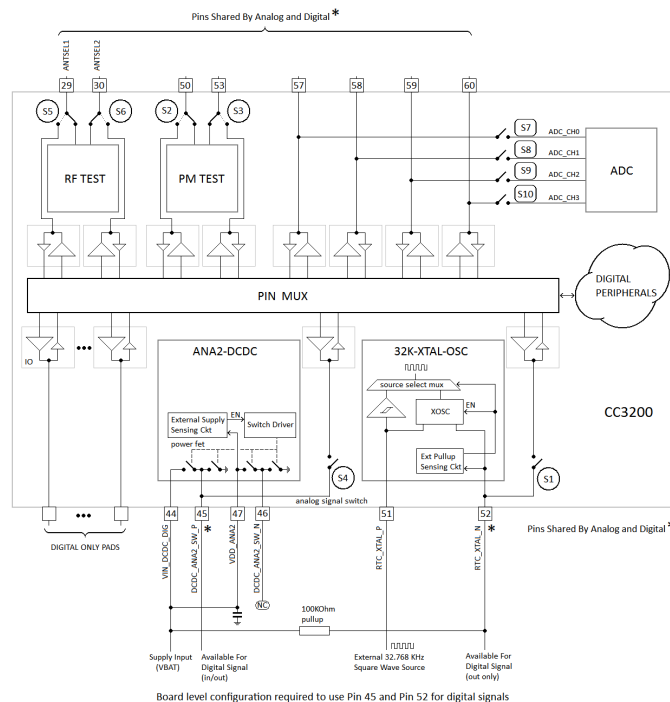

Figure 3-2. Board Configuration to Use Pins 45 and 52 as Digital Signals
(1) LPDS mode: The state of unused GPIOs in LPDS is input with 500 kΩ pulldown. For all used GPIOs, the user can enable internal pulls, which would hold them in a valid state.
(2) Hibernate mode: The CC3200 device leaves the digital pins in a Hi-Z state without any internal pulls when the device enters hibernate state. This can cause glitches on output lines unless held at valid levels by external resistors.
(3) To minimize leakage in some serial flash vendors during LPDS, TI recommends the user application always enable internal weak pulldowns on FLASH_SPI_DATA and FLASH_SPI_CLK pins.
(4) This pin has dual functions: as a SOP[2] (device operation mode), and as an external TCXO enable. As a TXCO enable, the pin is an output on power up and driven logic high. During hibernate low-power mode, the pin is in a high impedance state but pulled down for SOP mode to disable TCXO. Because of SOP functionality, the pin must be used as output only.
(5) Higher leakage current from the onboard serial flash can occur due to floating inputs when the device enters Hibernate mode. See reference schematics for recommended pull-up and pull-down resistors.
(6) For details on proper use, see Section 3.2, Drive Strength and Reset States for Analog-Digital Multiplexed Pins.
(7) This pin is one of three that must have a passive pullup or pulldown resistor on board to configure the chip hardware power-up mode. For this reason, the pin must be output only when used for digital functions.
(8) This pin is reserved for WLAN antenna selection, controlling an external RF switch that multiplexes the RF pin of the CC3200 device between two antennas. These pins should not be used for other functionalities in general.
- (9) Device firmware automatically enables the digital path during ROM boot.
- (10) Pin 45 is used by an internal DC-DC (ANA2_DCDC) and pin 52 is used by the RTC XTAL oscillator. These modules use automatic configuration sensing. Therefore, some board-level configuration is required to use pin 45 and pin 52 as digital pads (see Figure 3-2). Because the CC3200R device does not require ANA2_DCDC, the pin can always be used for digital functions. However, pin 47 must be shorted to the supply input. Typically, pin 52 is used for RTC XTAL in most applications. However, in some applications a 32.768-kHz square-wave clock might always be available onboard. In such cases, the XTAL can be removed to free up pin 52 for digital functions. The external clock must then be applied at pin 51. For the chip to automatically detect this configuration, a 100K pull-up resistor must be connected between pin 52 and the supply line. To prevent false detection, TI recommends using pin 52 for output-only functions.
- (11) VDD_FLASH must be shorted to V_{supply} .
- (12) To use the digital functions, RTC_XTAL_N must be pulled high to V_{supply} using 100-K Ω resistor.
- (13) This pin is shared by the ADC inputs and digital I/O pad cells. Important: The ADC inputs are tolerant up to 1.8 V. On the other hand, the digital pads can tolerate up to 3.6 V. Hence, care must be taken to prevent accidental damage to the ADC inputs. TI recommends that the output buffer(s) of the digital I/Os corresponding to the desired ADC channel be disabled first (that is, converted to high-impedance state), and thereafter the respective pass switches (S7, S8, S9, S10) should be enabled (see Section 3.2, Drive Strength and Reset States for Analog-Digital Multiplexed Pins).
- (14) Requires user configuration to enable the ADC channel analog switch. (The switch is off by default.) The digital I/O is always connected and must be made Hi-Z before enabling the ADC switch.